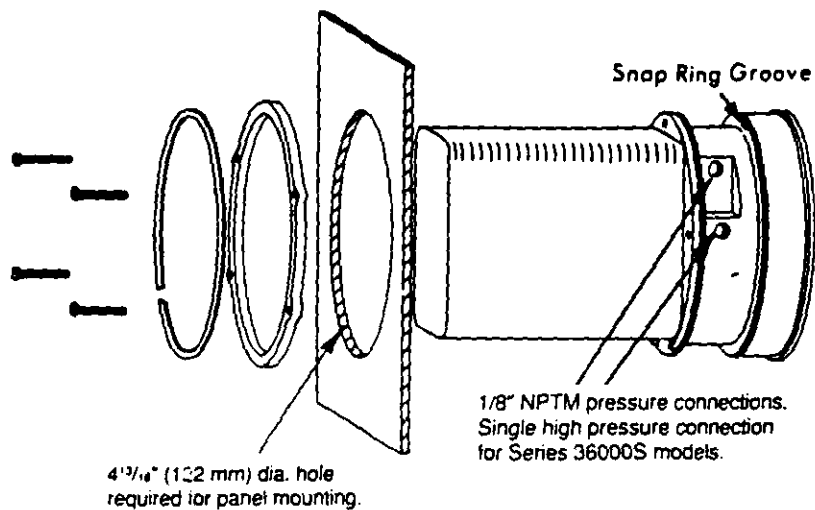

Figure 2
- A. **Panel Mounting:** Normal mounting is flush or through panel as shown in Fig. 2. Be sure to allow 4-3/8" extra space behind the unit for electrical enclosure removal. Make a single 4 7/16" diameter hole in the panel. Insert the entire PHOTOHELIC® unit from the front, then slip on the mounting ring and snap ring from the rear. Seat the snap ring in its groove, back up the mounting ring against snap ring and tighten the four (4) 2" No. 6-32 clamp screws provided. If behind panel space is critical, the amplifier-relay unit can be mounted remotely. See the Remote-Relay Mounting Instructions for details.
**B. Gage Mountings with Relays Remote:** Where it is desirable to mount the amplifier-relay unit separate from the gage-phototransistor unit, the gage may be mounted either as shown in Fig. 2 (except less amplifier-relay portion) or surface mounted as shown in Fig. 3A. Use the layout shown in Fig. 3B to locate holes. The complete package cannot be surface mounted.